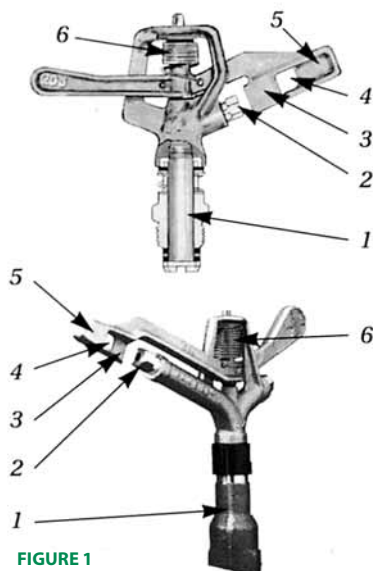

FIGURE 1
On **spoon-driven sprinklers**, (Figure 1) the water passes through the body (1), then through the nozzle (2), past the sloping vane (3), through the window (4) into the curve of the spoon (5). The reactionary force of the water leaving the spoon drives the arm out of the stream and away from the nozzle. The tension of the arm spring (6) then pulls the arm back into the original position where it impacts on the bridge or nozzle, causing the sprinkler to turn. The impact is accentuated by the thickness and angle of the leading edge of the sloping vane.